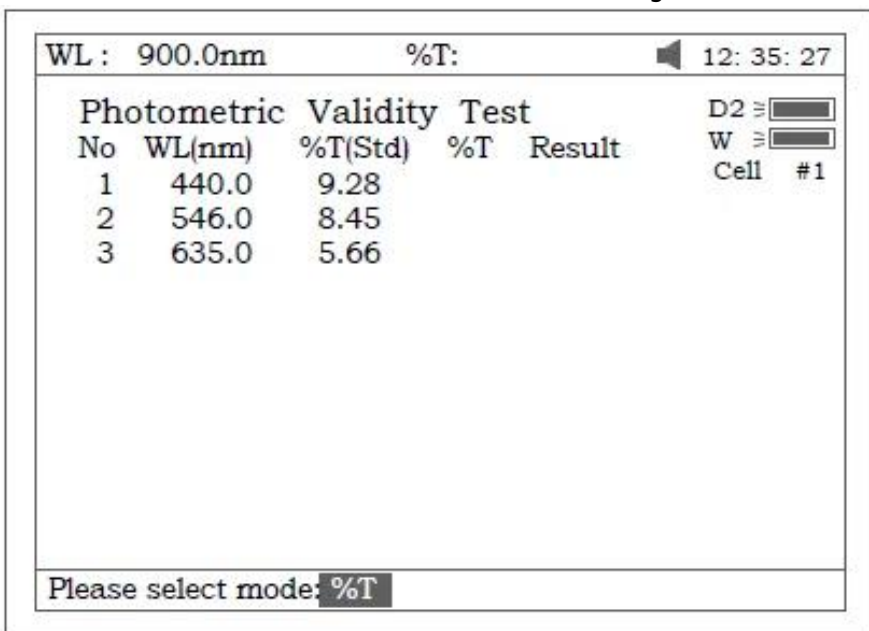

Figure 92
3. Press **【F2】** to select test mode (Abs or %T, Fig 92).